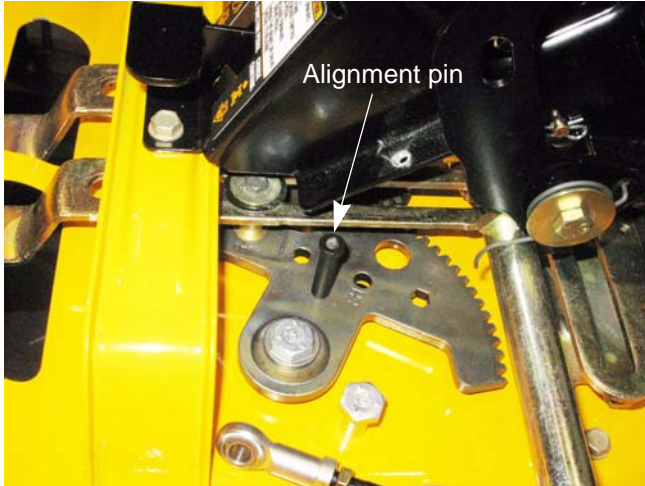

Figure 5.3
8. Install the segment gear alignment pins (1/4"). See Figure 5.3.